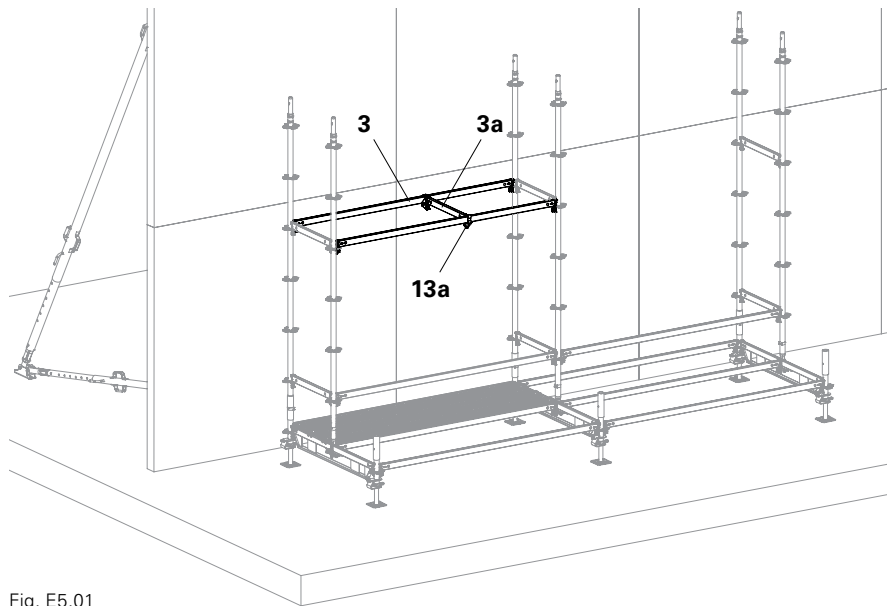

Fig. E5.01
1. Attach Ledgers UH (3) and securely fix with wedges.
3. Install Ledger UH 75 (3a) on Ledger-to-Ledger Couplers UHA (13a) at spacings of 100 cm as support for Hatch UAF. (Fig. E5.01)
4. Mount Hatch UAF (21) and Steel Deck UDG (10). Standing position: below.